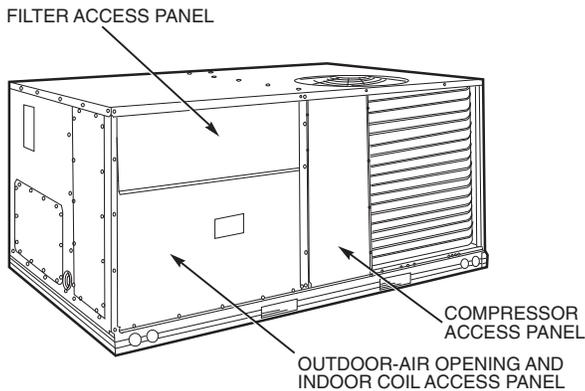

Fig. 8 — Typical Access Panel Locations
1. To gain access to the hood, remove the filter access panel. See Fig. 8.